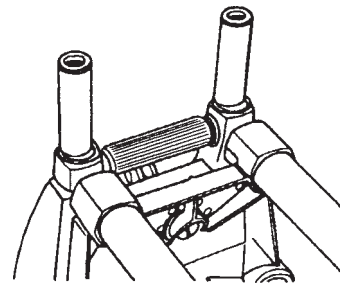

Fig. 1
1. Choose the power source you will be using with your Bandsaw (Shopsmith Mark V, Power Station or Power Stand). Loosen the accessory mount lock and insert the eccentric tubes (51) into the holes. The long end goes up. Orient the top portion of the eccentric tubes away from the power source, as shown in Fig. 1. Leave the accessory mount lock untightened for now.